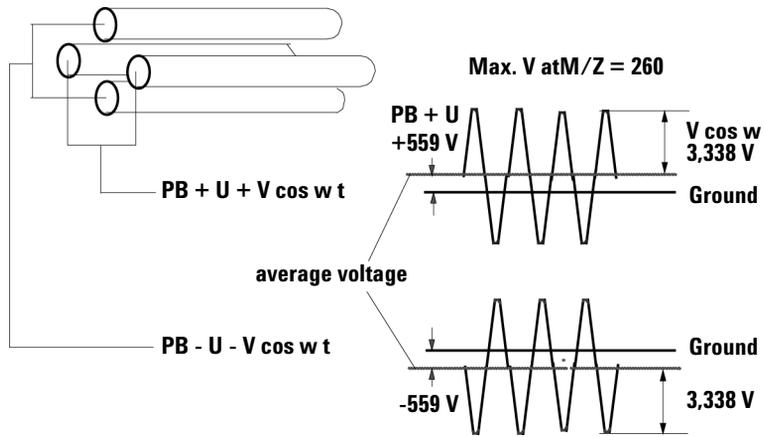

Figure 134 Q-pole Mass Filter
Only RF voltage is supplied to the Q- pole pre- filter, while RF and DC voltage is supplied to the main Q- pole filter. The purpose of the pre- filter is to direct ions from the Omega lens along the right path into the Q- pole main filter. To the Q- pole main filter, both about 3 MHz of RF voltage (V) and DC voltage (U) are supplied (Figure 134). When the highest mass 260 is analyzed, 559 V of DC voltage and 3,338 V of RF voltage are supplied. The maximum voltage is $\pm 3,897$ V.